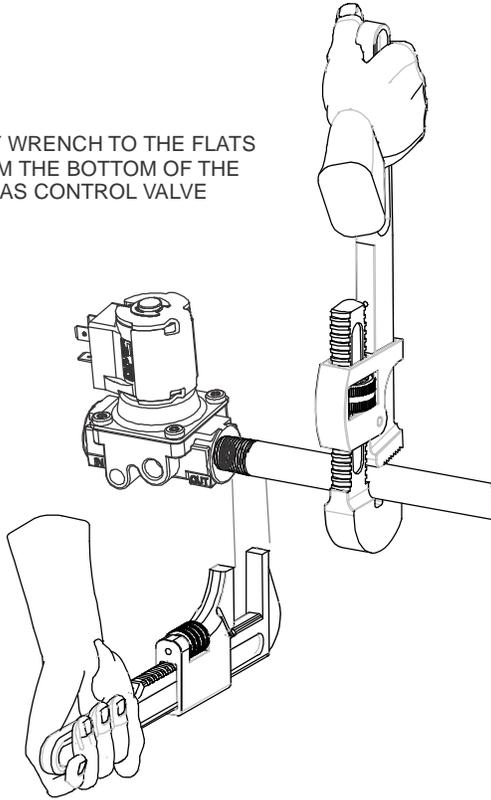

Figure 3: Proper Use of Wrench on Gas Control
11. Connect pipe to gas controls inlet and outlet. Use a wrench on the square ends of the control. If a flange is used, place the wrench on the flange rather than on the controls. This process should be used for both the install and removal of the valve in a gas system. (see Figure 3)